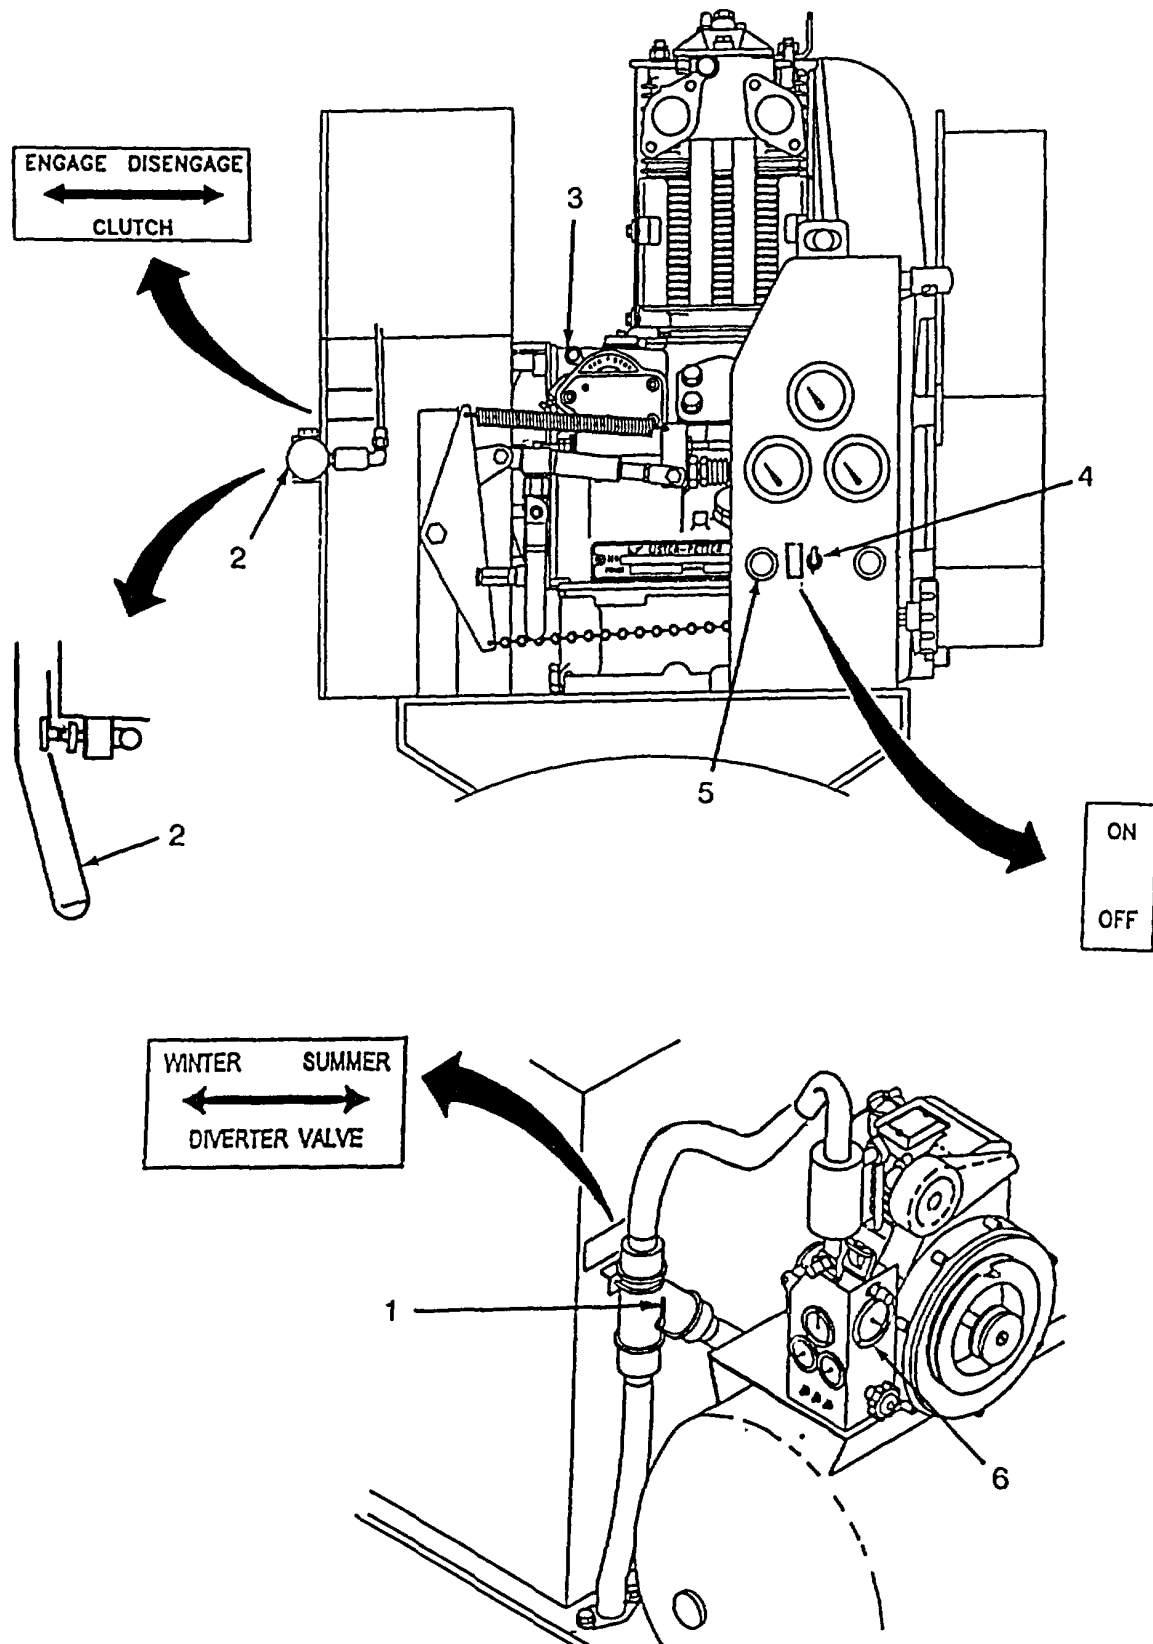

Figure 2-26. Starting and Stopping The Engine (Normal Weather)
(1) NORMAL WEATHER (Refer to Figure 2-26).
- (a) Flip engine exhaust diverter valve (1) to the right, "summer" position.
- (b) Or if clutch is engaged, disengage it by pushing handle (2) in.
- (c) Move the engine run/stop lever (3) on engine to "run".
- (d) Move the on/off toggle switch (4) on control panel to "on".
- (e) Push and hold engine start button (5) on control panel until engine starts, then release.
b. ENGINE SHUT DOWN NORMAL (Refer to Figure 2-26).
- (1) Disengage clutch (2).
- (2) Move the on/off toggle switch (4) to "off"
- (3) Move the engine run/stop lever (3) on engine to "stop".